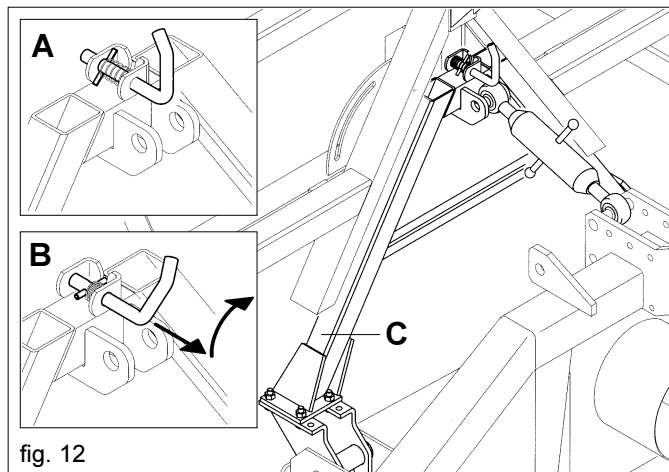

fig. 12
- 2) Grease the guides (C Fig. 12) of the triangle to facilitate the hooking up, and make sure that the spring pin is positioned as shown in Figure 12 ref. B.
- 3) Bring the tractor to the seeder; using the lift, move the quick connect triangle until it is vertically above the coupling triangle of the seeder (Fig. 12).
- 5) Lift the equipment until the two parts are perfectly coupled along the triangle guides with the insertion of the spring dowel (A Fig. 12).
- 2) With the machine raised, insert the parking feet and attach the pin (B Fig. 12) to the hook.